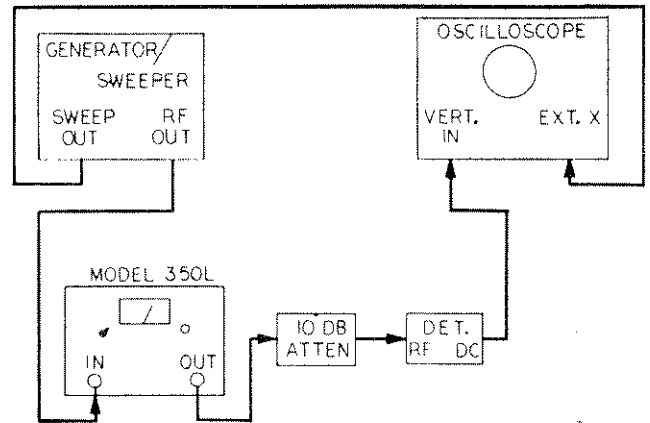

Figure 5-1. Gain and Gain Variation Test Set Up
- a. Set-up the test equipment as shown in figure 5.1.
- h. Reconnect Model 350L into the test set up of figure 5-1.